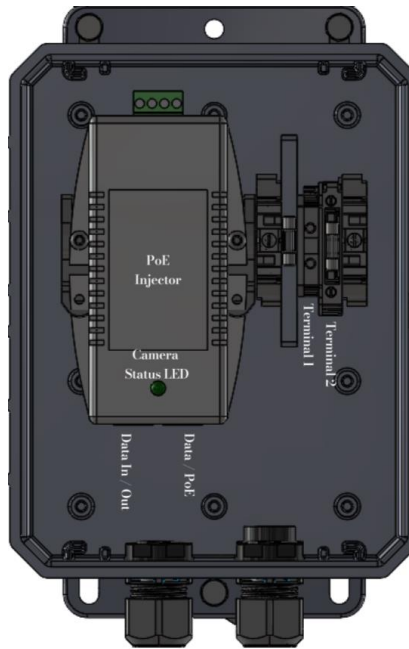

Figure 107 Kuva Power Box
8. Disconnect power from the Kuva power box as per Figure 107.